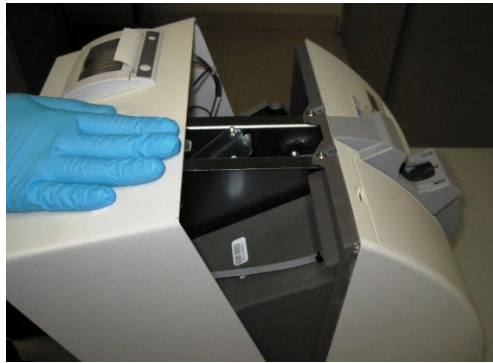

Figure 3
- 2.4. Once these screws are removed, slowly split the back portion from the front as depicted below in Figure 3 but do NOT fully remove the enclosure yet.